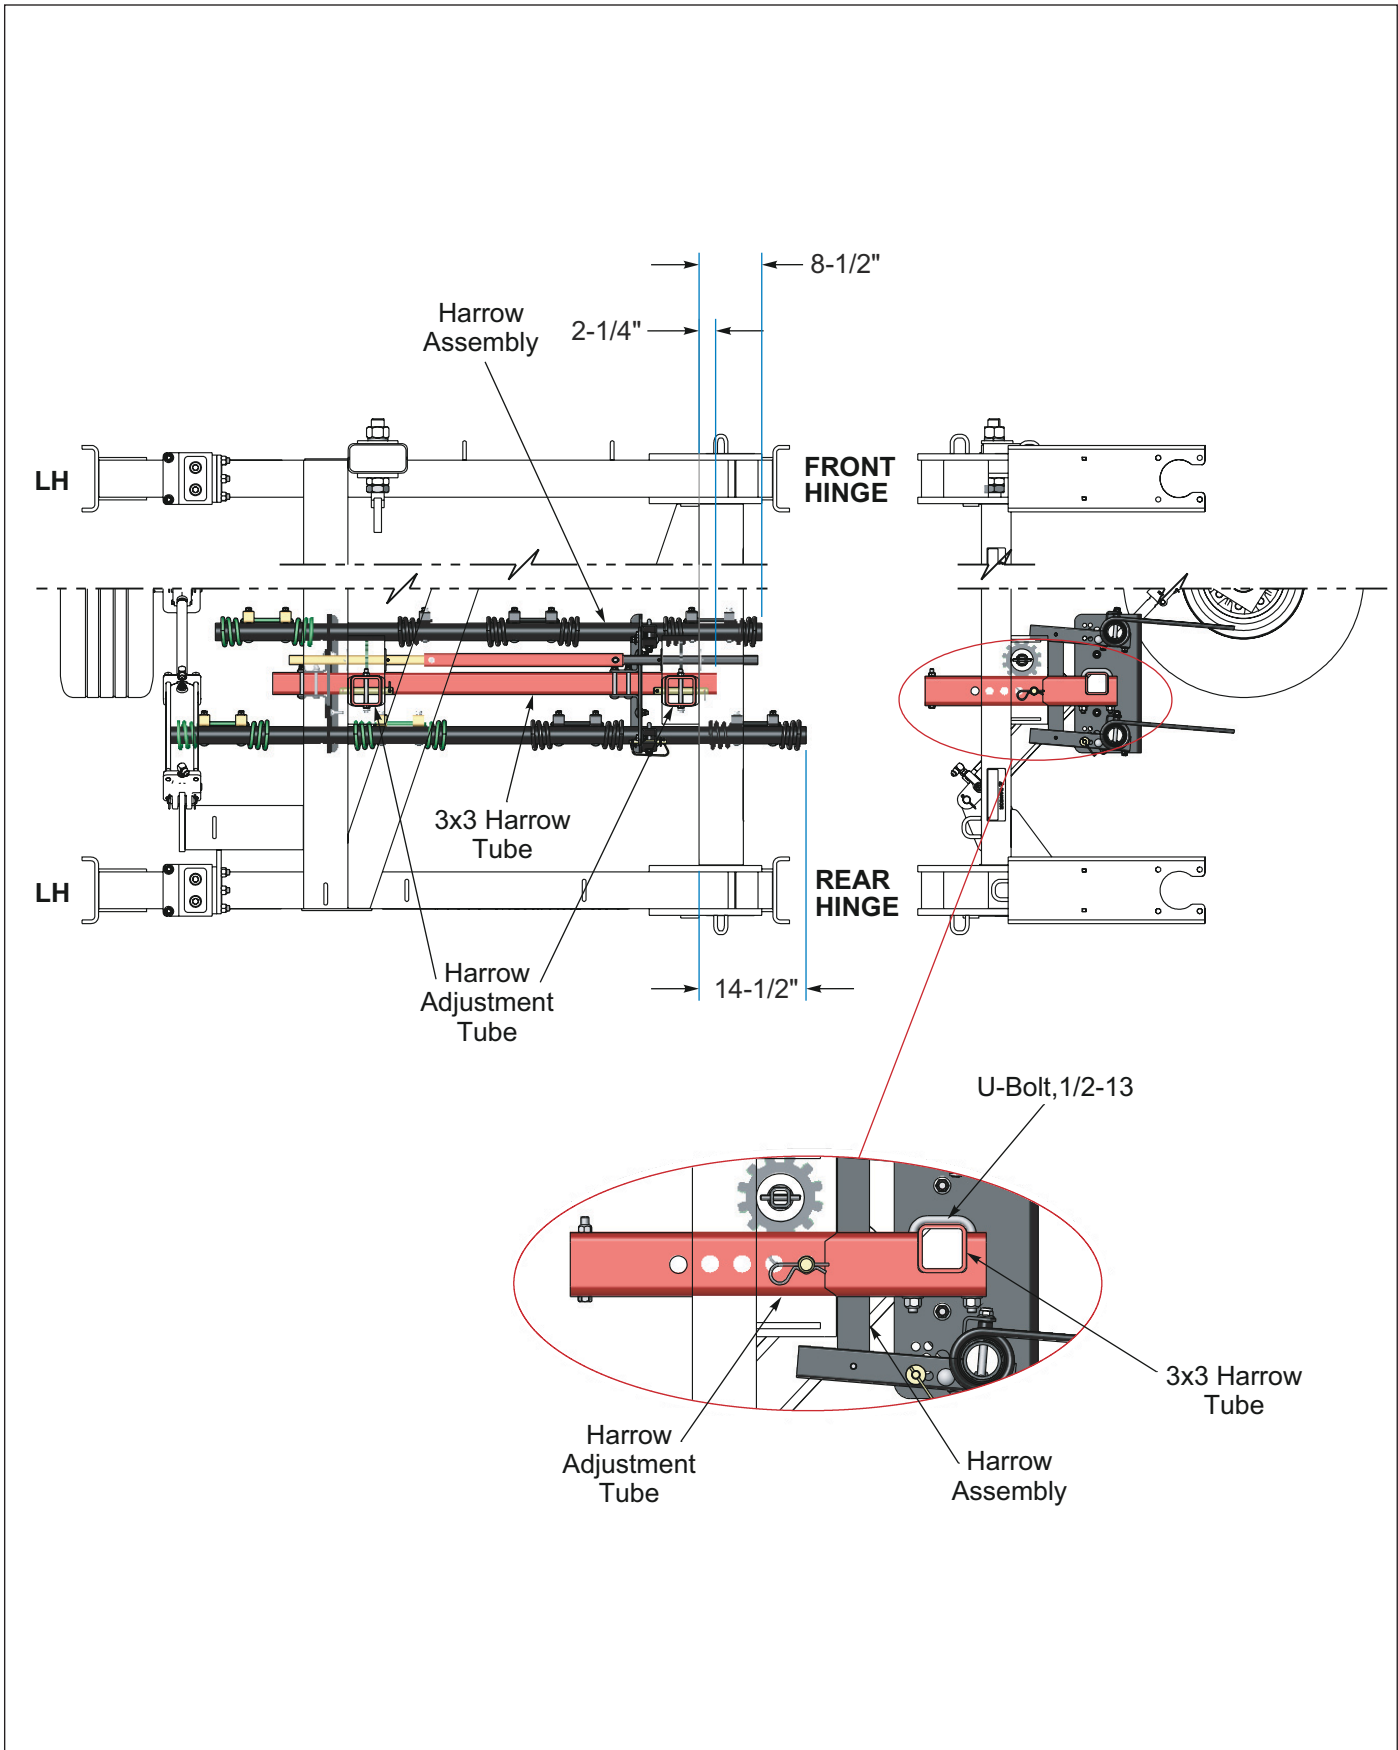

Figure 2-63: Left Hand Wing Harrow Dimension
2. The LH and RH Wing 2-Bar Harrow comes factory assembled. Lift Harrow Assembly and slide the Harrow 3 x 3 Tube into the cut-out portion of the Harrow Adjustment Tube and insert a 1/2-13 U-Bolt on each side. Check Harrow position in relation to the Frame and secure with Flat Washer and Locknut. **See Figures 2-63 and 2-64.**